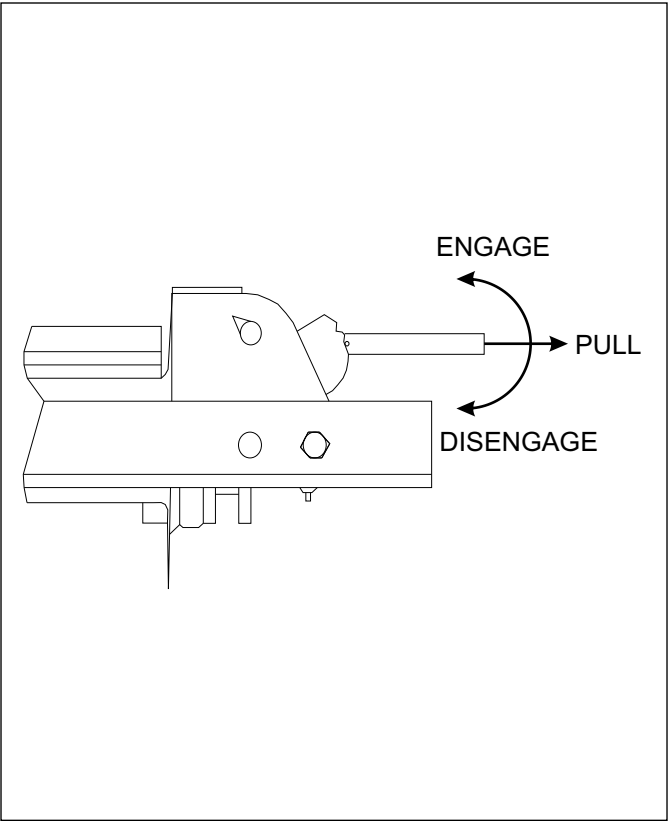

Figure 3-10: 12,000 LB. Winch Manual Clutch
- 1. The Winch Clutch handle (See Figure 3-10 and 3-11) is located on the right or curb-side end of the winch assembly. The function of the winch clutch handle is to engage or disengage the winch, allowing it to respond to the Winch Hydraulic lever.